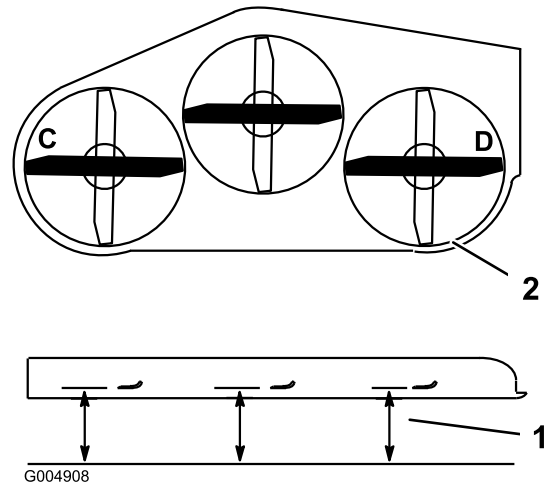
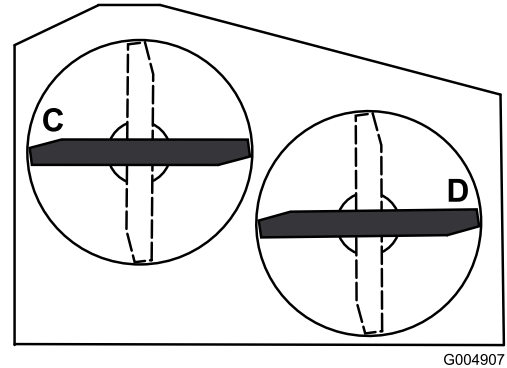

Figure 85
Figure 86
2. Position the blades side-to-side. Measure at **C** and **D** locations from a level surface to the cutting edge of blade tips (Figure 85). For 36 inch mower decks use Figure 86.